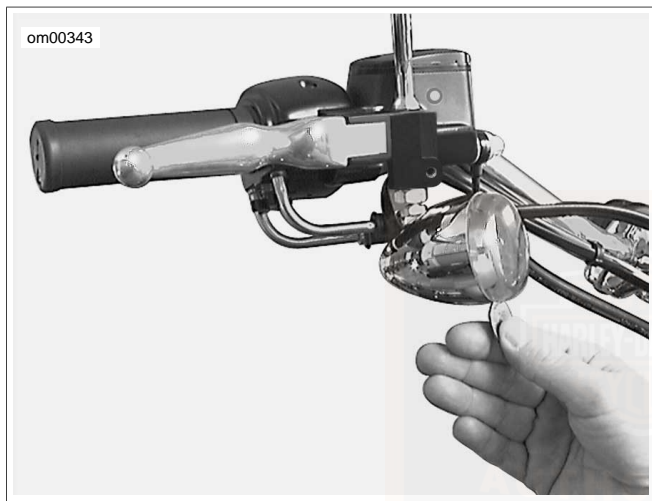

Figure 51. Lens Cap Notch
1. See Figure 51. To access the front or rear turn signal bulbs for replacement, locate a notch on the turn signal lens cap.